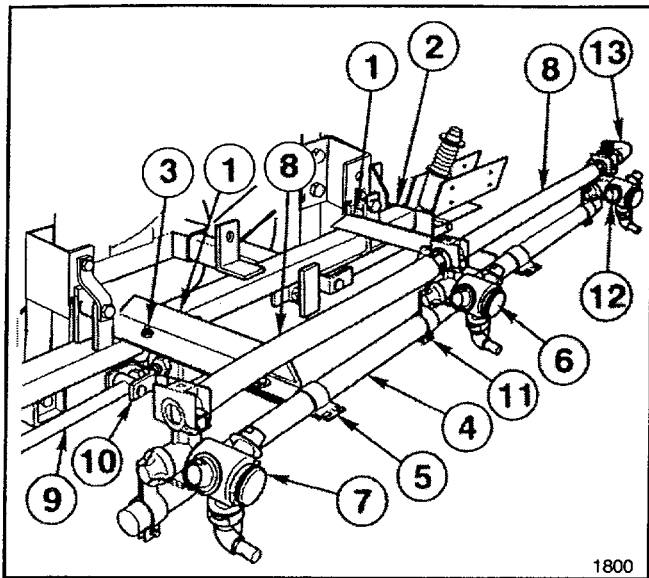

FIG. 6
9. Position the two (2) Center Boom angles on the Main Frame and secure them to the Main Frame Tube with two (2) square U-bolts, four (4) flat washers and hex nuts. (See FIG. 6, page 14)
10. Center and attach the Center Boom Pipe to the two (2) Center Boom Angle with two (2) clamps, (2) 3/8" x 1" cap screws, flat washers and lock nuts. Once mounted the Center Boom Pipe should be approx. 20" from ground.
11. Loosely attach the Double Barb Turret Body with the Turret Body Clamp in the approximate center of the Center Boom Pipe. For the most uniform spray coverage, position all Nozzles level as shown in FIG. 6.
13. Place two (2) Hose Clamps on two (2) 3/4" x 19" Jumper Hoses and connect the two (2) "end" Turret Bodies to the Double Barb Turret Body. Space nozzles 20" apart and tighten fasteners securely. Apply thread sealer and install 90° 3/4" Hose Barb on the Threaded Turret Body. (See FIG. 6, page 14)
14. Attach the two (2) Strut Assemblies to the two (2) adjustable clevises found on each side of the Main Frame tube with (2) 1/2" x 2" clevis pins and two (2) 1/8" x 1" cotter pins. (See FIG. 6, page 14)
19. Adjust the Booms to a level position by adjusting the jam nuts on the adjustable clevis assemblies (See FIG. 6) to the desired position, then tighten the nuts against the Main Frame plate.